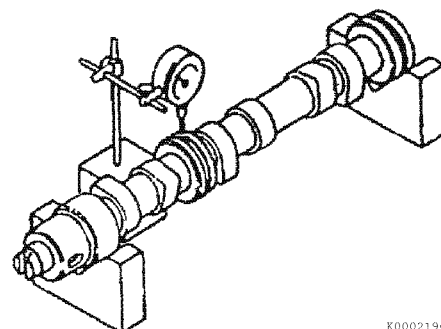

Figure 6-79
1. Use V-blocks and a dial indicator to check camshaft bend (**Figure 6-79**). Place the indicator on the center bearing journal.